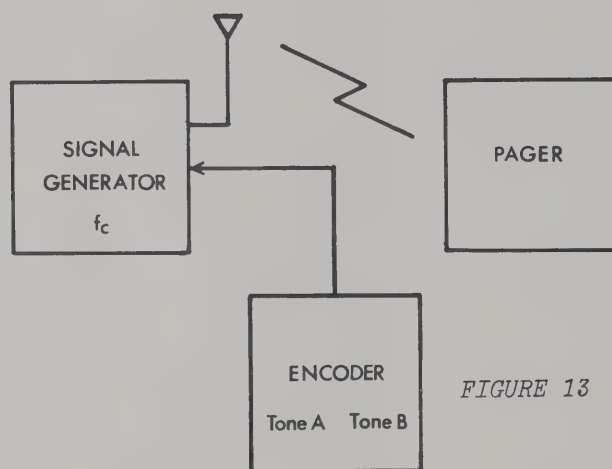

FIGURE 13
- (b) Connect test equipment as shown in Figure 13. Install reeds (of corresponding frequencies with decoder reeds A and B) in encoder. Set the signal generator to the operating frequency and modulate the generator with the encoder. Adjust the encoder output to obtain 3 kHz deviation. Depress the reset button on the pager. Transmit a modulated signal from generator into pager. The call tone should be heard indicating the receiver is ready to receive another message. Disconnect the encoder and modulate the signal generator with a 1 kHz tone. Confirm that the 1 kHz tone is heard for at least 3 minutes. Repeat the above check with the lamp-tone switch in the lamp position and confirm that the lamp operates on call. The lamp should light momentarily.